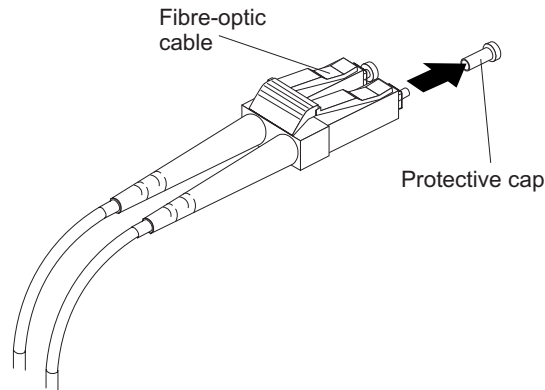

Figure 31. Removing fiber-optic cable protective caps
3. Remove the two protective caps from one end of the LC-LC cable, as shown in Figure 31 on page 53. Save the protective caps for future use.